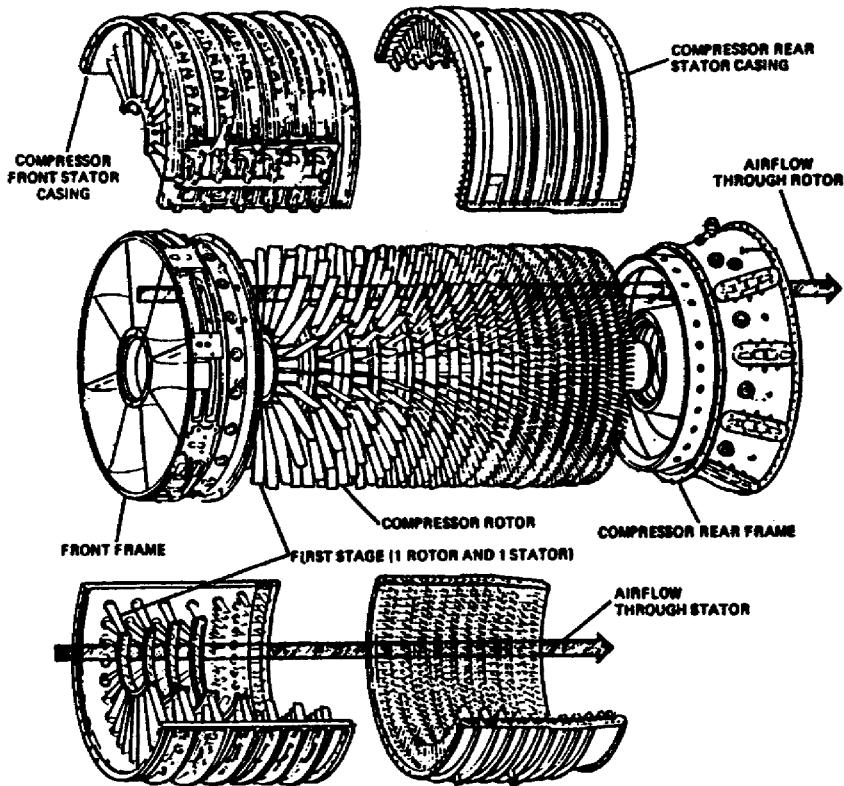

Figure 1-20. Axial Compressor.
(7) Compressors. The compressor is designed to provide the combustion chamber with a maximum amount of high-pressure air that is heated and expanded through the turbines. The amount of energy released from the heated airmass is proportional directly to the mass of air consumed. This is the major reason why the compressor is one of the most important components in the gas turbine. A poorly designed compressor will not provide the combustion chamber with the proper amount of high-pressure air, and will result in a lack of power. Modern compressors are able to achieve compression ratios of approximately 15: 1 and efficiencies approaching 90 percent. Two common types of compressors are discussed below.
(8) Axial. The axial compressor performs the compression process in a straight line parallel to the axis of the engine. The axial compressor is composed of rotating members called rotors and stationary members called stators. A row of rotors and stators is called a stage. The axial compressor is composed of a series of stages (Figure 1-20). During operation, the air is arrested in the first stage of compression and is turned by a set of stator vanes, picked up by a set of rotor blades, and passed through each successive stage to complete the compression process. The rotors increase velocity while the stators decrease the velocity. The successive increases and decreases in velocity practically cancel each other, with a result that the velocity, as the air leaves the compressor, is usually slightly greater than the velocity of the air at the entrance to the compressor. As the pressure is built up by successive sets of rotors and stators, less and less volume is required. Thus, the volume within the compressor is decreased gradually. At the exit of the compressor, a diffuser section within the engine adds the final touch to the compression process by decreasing again the velocity and increasing the static pressure just before the air enters the engine burner section.